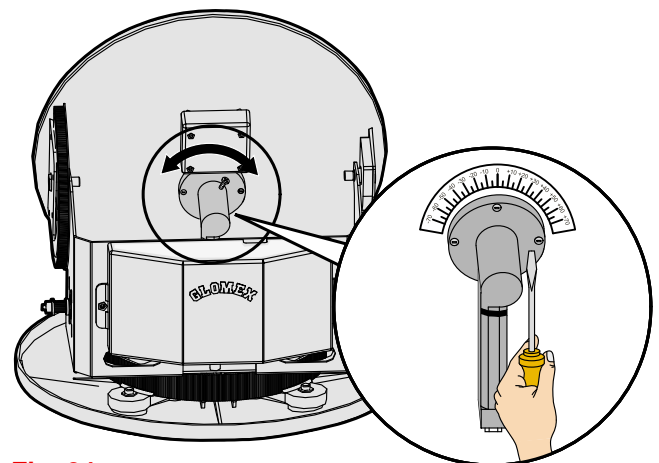

Fig. 24
- loosen the 4 screws fastening the LNB to the dish (see **Fig. 24**) and manually move the dish, searching for the parameter of signal quality of the digital receiver in use as a reference for correct calibration (please refer to the receiver's manual). Calibration does not need to be changed if the boat remains in the same area and receives transmission from the same satellite.